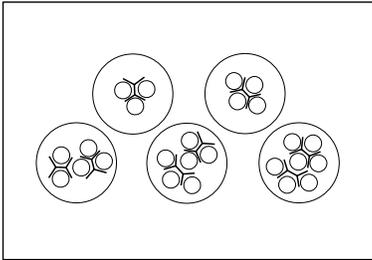

Figure 13
Figure 13 illustrates several different multiple cable configurations and branch clip locations .
6. Insert the clip between the cables, making sure that there is only one cable between each clip wing (see figure 13). Make sure that the central part of the clip is positioned where the cables come together (mark flush with duct entrance). (Figure 18)